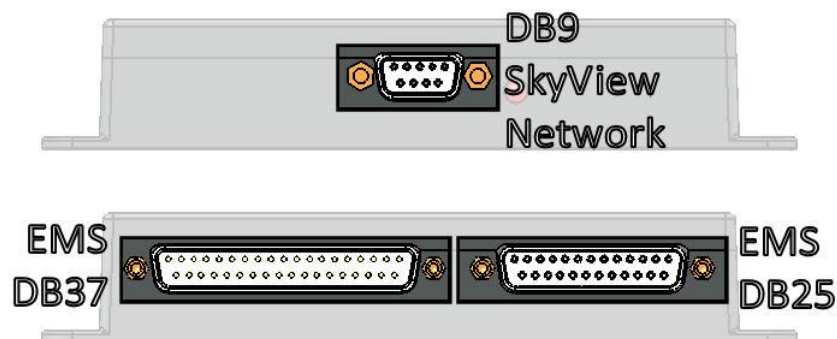

Figure 150: SV-EMS-220 Connectors
The SkyView EMS Module (SV-EMS-220) has three (3) connectors as illustrated in Figure 150:
- One (1) D9M SkyView network connector.
- One (1) D37M for various transducer connections.
- One (1) D25F for thermocouple connections.